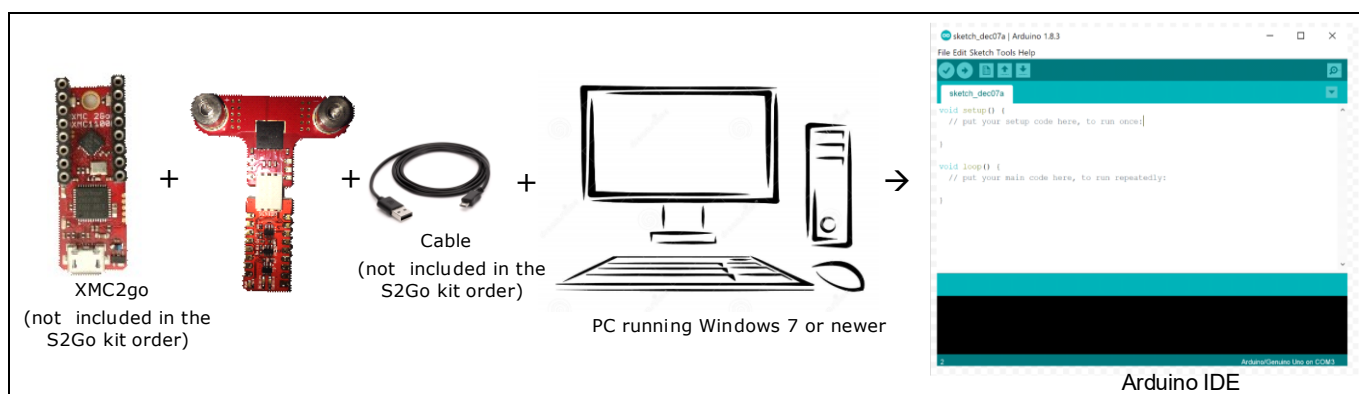

Figure 5 S2Go kit Use Case with XMC2GO Board
- S2Go kit use case with XMC2GO Board (See Figure 5)